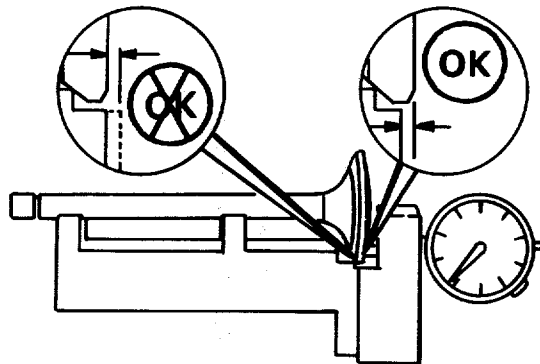

FIGURE 4-7. Valve Head Thickness Check.
- (11) Position valve on valve head checking tool so that the valve head touches the tool as shown in FIG. 4-7.